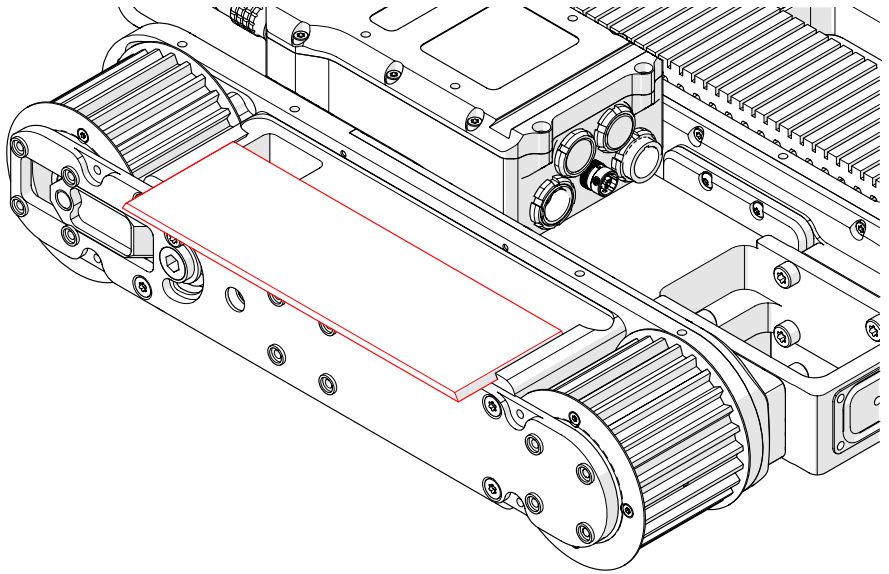

Fig. 60 - Ensure slider plate does not come out
6. Take care to ensure the slider plate does not fall from its groove (Fig. 60).